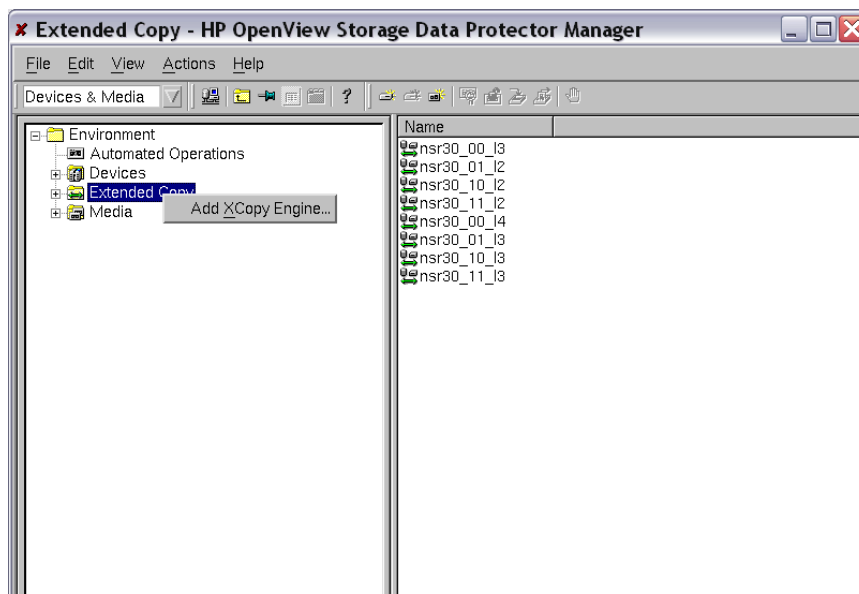

Figure 8: Adding XCopy engines
- a. Select **Extended Copy** in the GUI left panel (see Figure 8).
- b. Right-click **Extended Copy** and select **Add XCopy Engine** (see Figure 8).